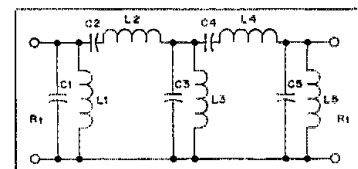

Fig. 4 — Schematic diagram of a 5-resonator band-pass filter.
In the following equations, F_{mean} , BW_{Ap} , BW_3 , F_{LO} and F_{HI} are in Hz, and all capacitances and inductances are in farads and henrys unless otherwise stated. Fig. 4 (below) shows the schematic diagram of the band-pass filter.
4) Transform the LP filter into a BP filter by resonating all capacitors and inductors to F_m . For example, let $F_m = 536.5$, $BW_3 = 176$, $R_1 = 932.8$ and $\rho = 0.063$. From Appendix B, $F_3/F_{AP} = 1.248$, $F_{AP} = 176/1.248 = 141$ Hz. Normalized values of G1, 5, G3 and G2, 4 = 0.8265, 1.653 and 1.3375. C1, 5 = $0.8265/(2\pi \cdot 141 \cdot 932.8) = 1.00 \mu\text{F}$, L2, 4 = $1.3375(932.8)/(2\pi \cdot 141) = 1.408$ H and C3 = $2.00 \mu\text{F}$. Resonate all C 's to F_m with shunt inductors and all L 's with series capacitors using the following equations: $L_{sh} = 1/(2\pi \cdot F_m)^2 C$ and $C_s = 1/[2\pi \cdot F_m)^2 L]$. L1, 5 = 88 mH, L3 = 44 mH and C2, 4 = 62.5 nF. The transformed BP filter schematic is shown in Fig. 4 and the filter attenuation values and other parameters are listed in Table 2.